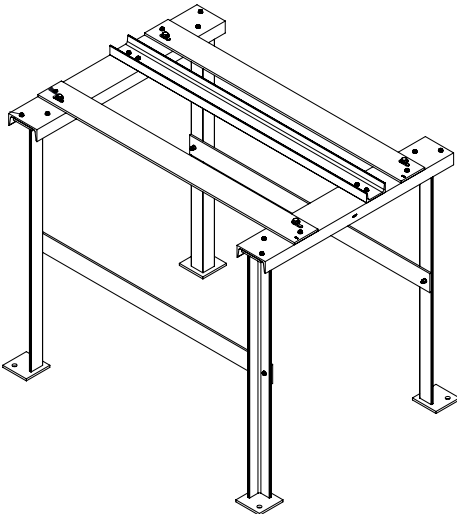
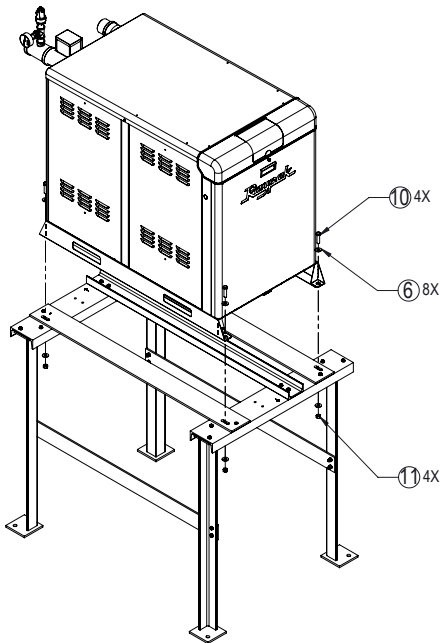

Figure 4. Completed Rack
Figure 5. Unit Mounted on Rack
4. Using a forklift, mount the boiler/water heater on top of the rack system. Secure the unit to the rack using provided bolts, nuts and washers (Items 6, 10 & 11). The completed rack is shown in **Figure 4**. The complete assembly including the mounted unit is shown in **Figure 5**.